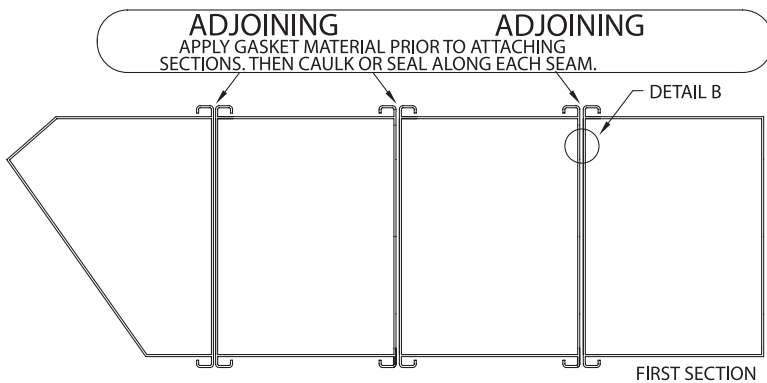
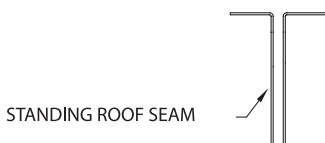

FIGURE 1
FIGURE 3
1. Apply gasket material to the end of the first section (blower, discharge, heater, etc). (See Fig. 1.)
3. Once the sections are connected, apply caulking or silicone sealant along the standing roof seam (Fig. 3) and side seams where the sections come together. (Fig.1) It is mandatory to seal the roof and side seams along the entire outside of the unit, and it is strongly suggested that the seams also be sealed along the inside of the unit, if possible.